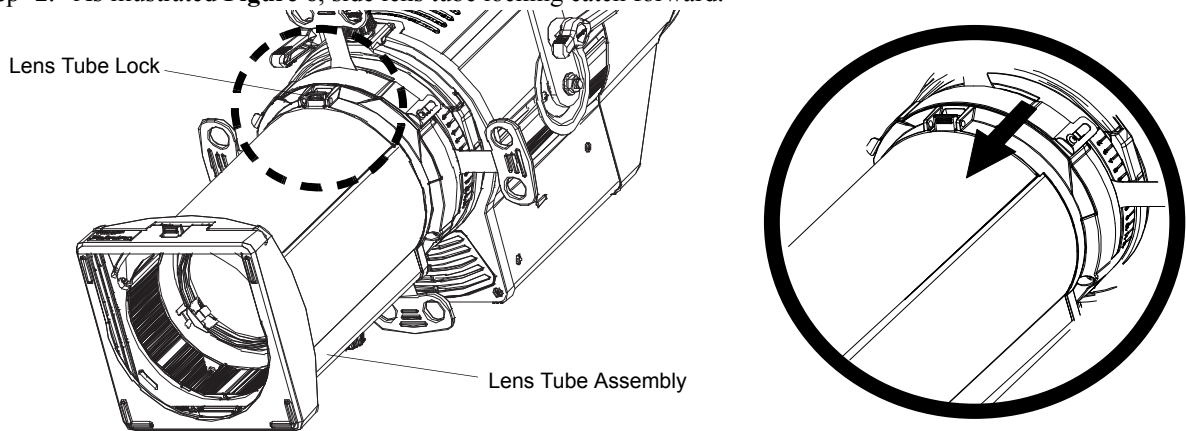

Figure 6: Lens Tube Assembly Removal - Lens Locking Catch
Step 2. As illustrated **Figure 6**, side lens tube locking catch forward.